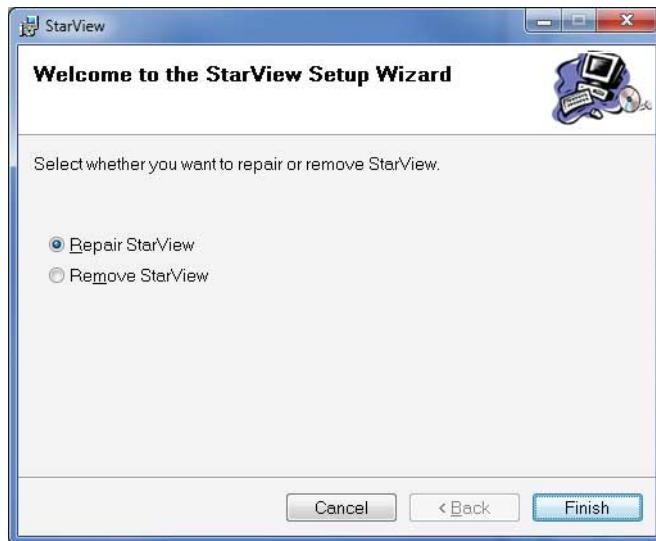

Figure 10-1: StarView Install Dialog
3. If the same version of StarView is already installed you should see the dialog shown in Figure 10-1. Select **Remove StarView**, and click the **Finish** button. Re-run the install program and continue as normal.